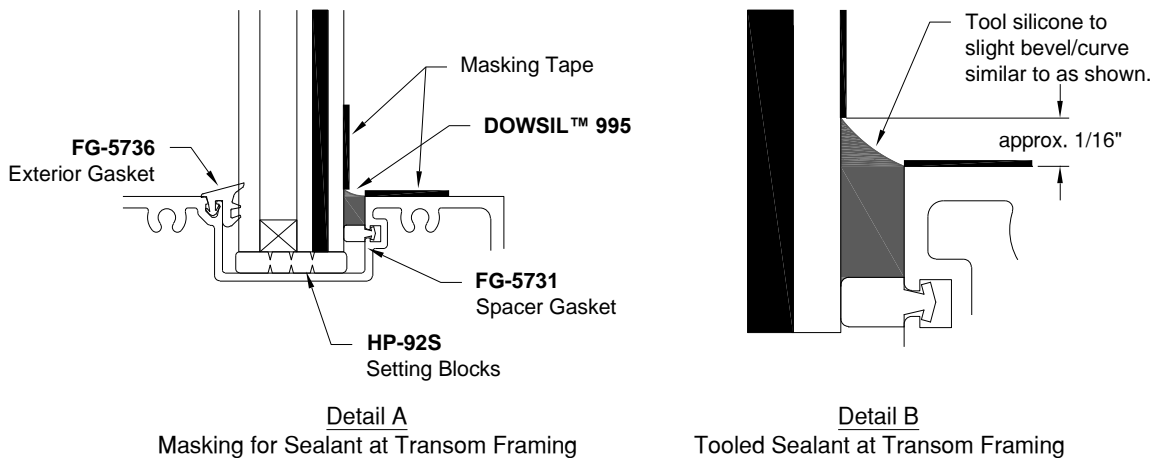

Figure 30: Glazing Interior of Transom
- 12.8.2 Clean glass and transom framing with isopropyl alcohol and mask off glass with 1" wide (minimum) low-adhesion masking tape. Reference *Figure 30, Detail A* for masking tape application location.
- 12.8.3 Fill cavity around full perimeter of D.L.O. with **DOWSIL™ 995** Silicone Structural Sealant, as shown in *Figure 30*; care should be taken not to leave any voids and eliminate air bubbles in sealant. Immediately tool, creating a finished joint with a beveled/curved joint surface similar to *Figure 30 Detail B*.